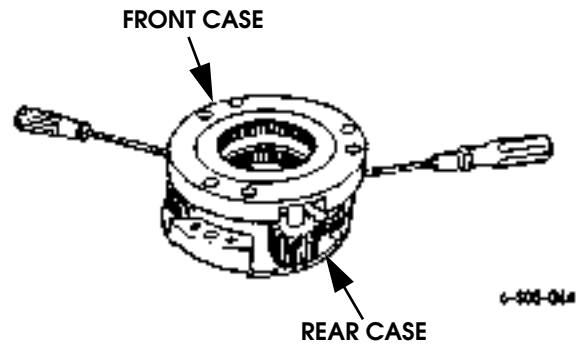

Figure 5-112: Separating Differential Cases
- c. Pry front and rear cases apart with two screwdrivers (Figure 5-112).